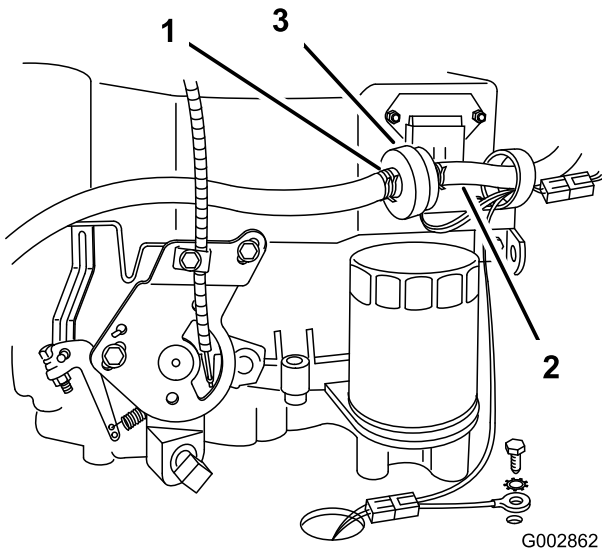

Figure 27
3. Squeeze the ends of the hose clamp together and slide it up the fuel line away from fuel filter (Figure 27).
4. Pull the fuel line off the fuel filter (Figure 27). Open the fuel shut-off valve and allow the gasoline to drain into a gas can or drain pan.
- Squeeze the ends of the hose clamps together and slide them away from the filter (Figure 27).